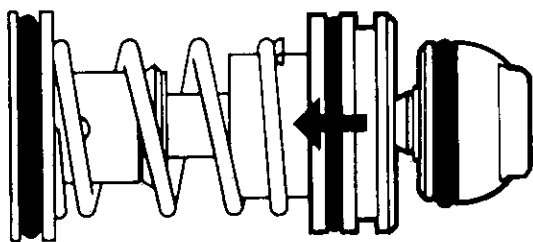

Figure 6.13
2. Replace piston seal (10) and install piston ring (12) on sequencing valve piston (9) using retaining ring (13).
3. Replace piston seal (14) on sequencing valve piston. Apply Dow Compound #7 grease to seal O.D.
4. Install a new seal support seal (4) on seal support (5). Lubricate the I.D. of the seal support with Dow Compound #7 grease.
5. Place sequencing valve spring (7) on sequencing valve piston (12). Install seal support (5) on piston with seals toward air-foil end, as shown in Figure 6.13. Install sequencing valve air-foil (1) and lockwasher (8) on the piston. Insert a drift punch into the hole in the sequencing valve to provide leverage and torque the air-foil to 40-50 in. lbs. (4.5 to 5.6 N·m). Replace air-foil seal (2).